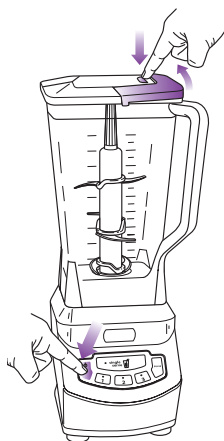
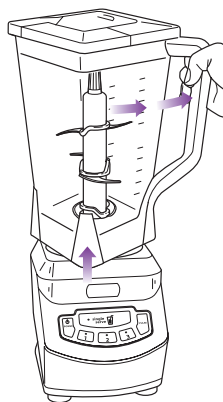

Fig. 7
Fig. 8
- 8 When you have reached your desired consistency, stop the appliance by pressing the power button (b) and wait for the attachment to stop turning. (Fig. 7)
- 9 To remove the lid, pull the lid handle up to a 90° angle. Turn the bowl clockwise to lift off the base. (Fig. 7, Fig. 8)